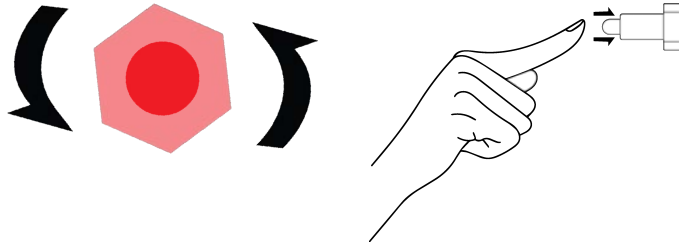

Fig 1.
- Once the oven has cooled down, turn the black or red knob anti-clockwise (**Fig 1**).